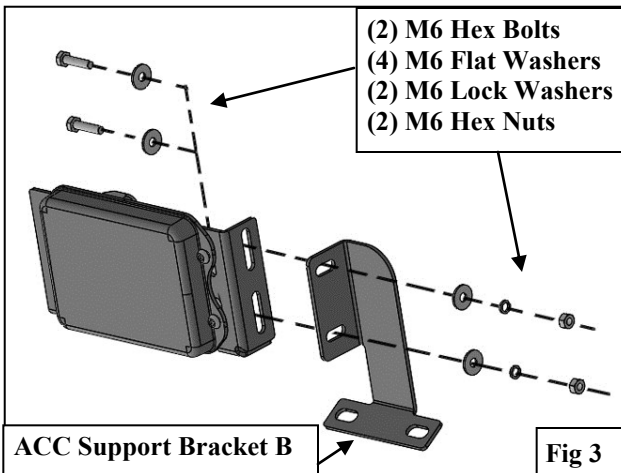

Fig 3
3. Next, remove the plastic lower air dam from the bottom of the bumper, (**Figure 3**). Remove the outer bumper supports attaching the outer ends of the bumper to the sides of the frame, (**Figure 4**). Remove the plastic covers from the tow hooks to uncover the bumper bolts, (**Figure 5**).
b. Next, attach the ACC Support Bracket B to Bracket A using (2) M6 Hex Bolts (item 20), (4) M6 Flat Washers (item 21), (2) M6 Lock Washers (item 22) and (2) M6 Hex Nuts (item 23), (**Figure 3**).